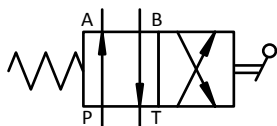

FIG 5.
E. The symbol for a 4/2 way directional control valve is shown in Fig 5 and 6 below.